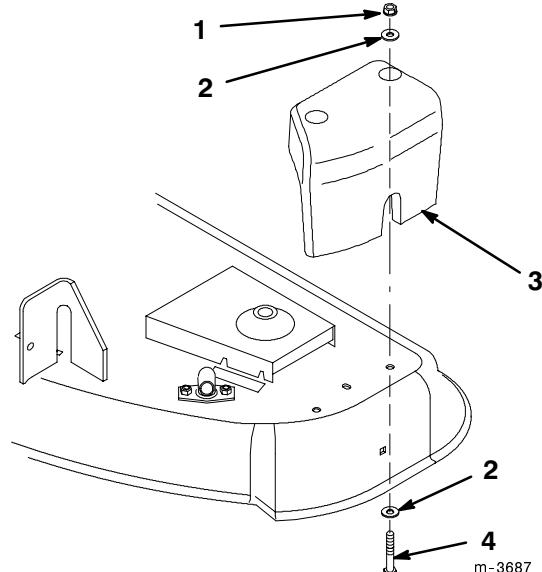

**Figure 30**
1. Remove the pivot support and pivot bracket from the mower (Fig. 30).
- Install the previously removed hardware in the open hole of the mower for safety (Fig. 30).
- Install the mower belt cover using existing hardware (Fig. 30).